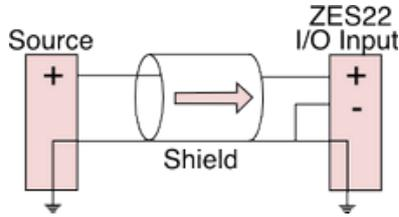

Figure 11: 2-wire unbalanced source input
2. Screw the part to the chassis to secure it properly, Figure 11.